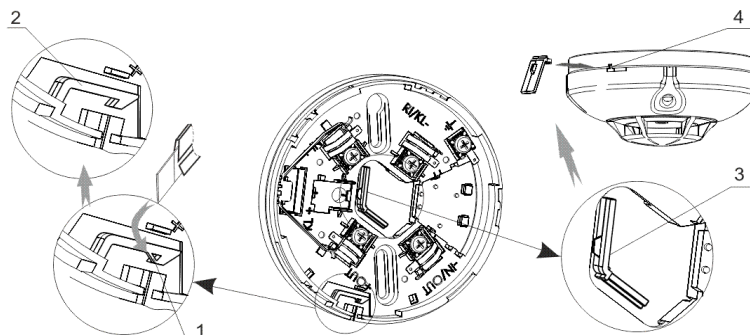

Figure 4
Prior to installing the detector base, detach the key (Figure 4, Position 3) from it and cut out the rib (Figure 4, Position 1) of the locking click (Figure 4, Position 2).
5.6 For releasing the detector, insert the key (Figure 4, Position 3) into the slot (Figure 4, Position 4), push inward and in the same time rotate the detector body counterclockwise. Then remove the key from the slot and rotate the detector body further in the same direction until it is separated from the base.